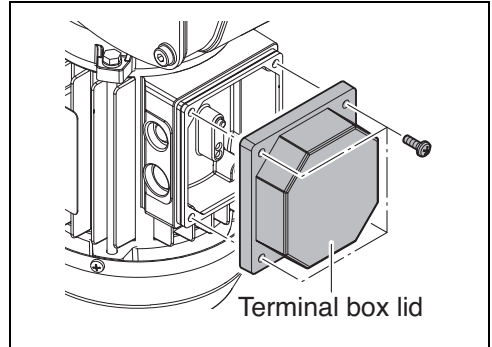

Fig. 45
- ▶ Remove the terminal box lid (see Fig. 45).